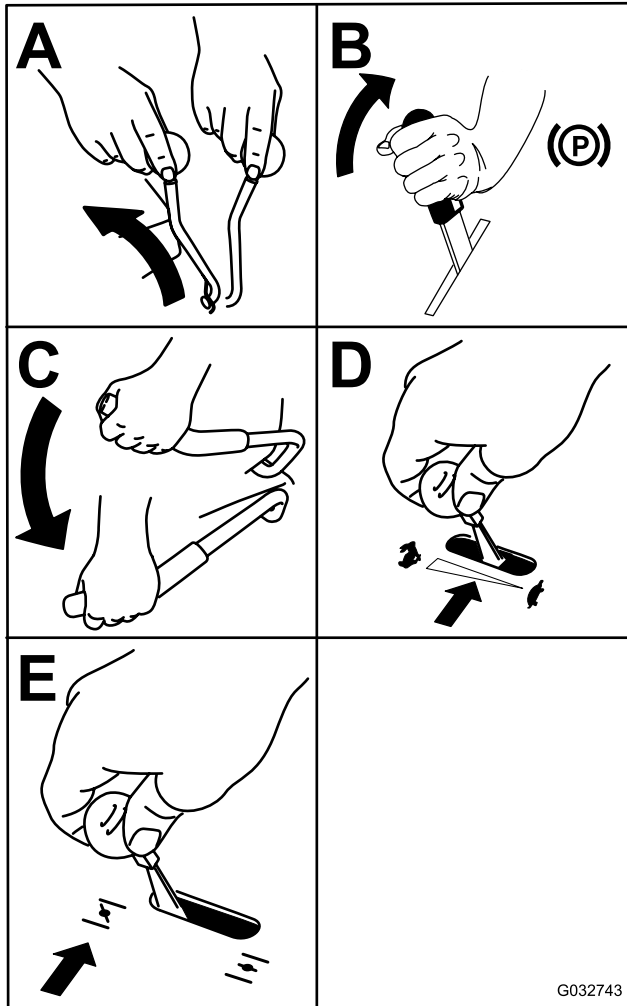

Figure 23
- Move the PTO-engagement lever to the OFF position (Figure 23).
- Turn the key to the START position (Figure 23). When the engine starts, release the key.